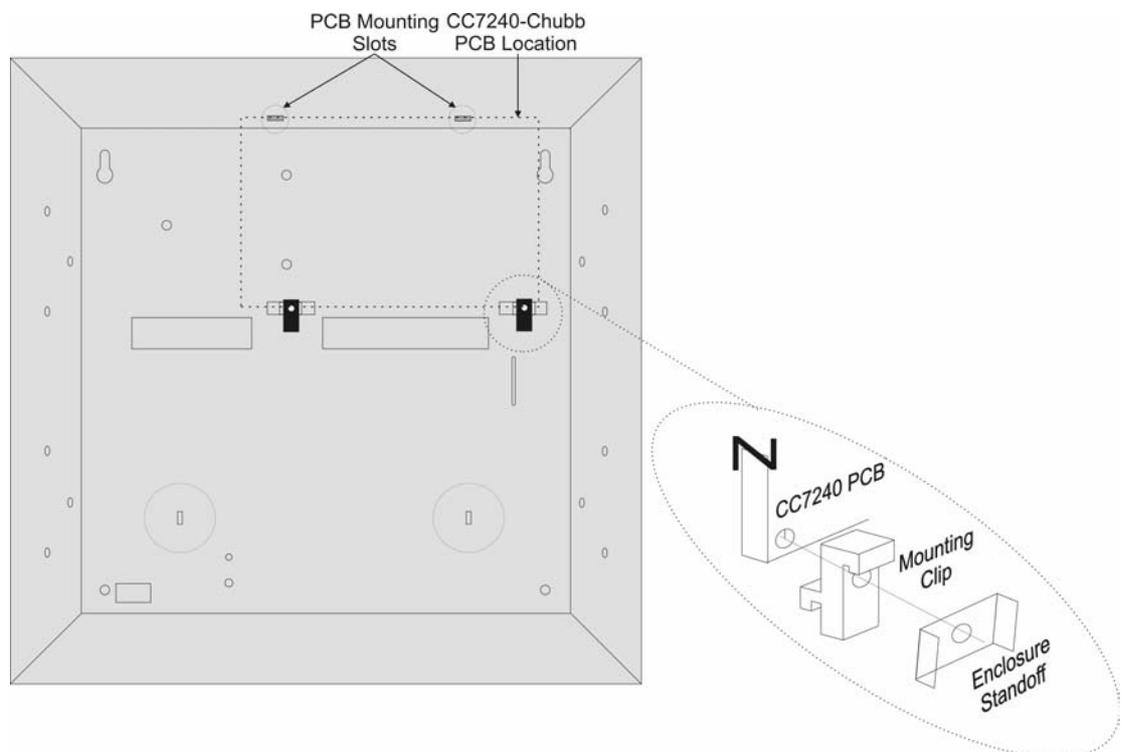

Figure 4: Installing The PCB
1. Place the PCB mounting clips on the appropriate enclosure standoff's (see Figure 4).